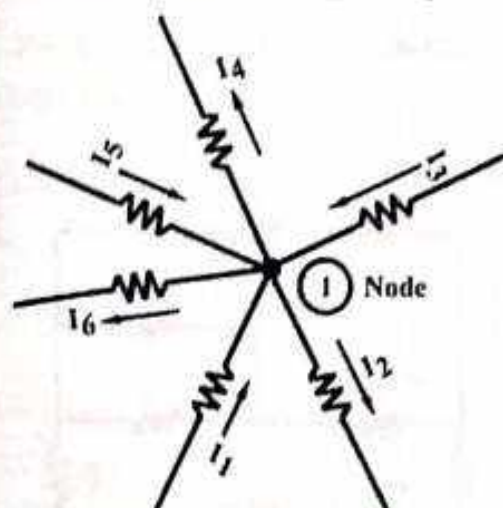

Fig. 1.10 Kirchhoff's Current Law
In fig. 1.10, the currents I_1, I_2, I_3, I_4, I_5 and I_6 flow through the branches which are connected to a node ①. Currents I_1, I_3 and I_5 entering into the node while the currents I_2, I_4 and I_6 leaving the node. According to Kirchhoff's current law the sum of the currents flowing towards the node must be equal to the sum of the currents flowing out of the node,